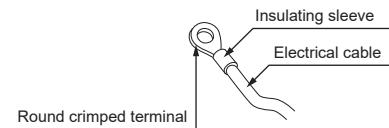

Fig. 6-2
- Use round crimped terminals for the indoor-outdoor connection terminal board and the optional power supply terminal kit. [Fig. 6-2]